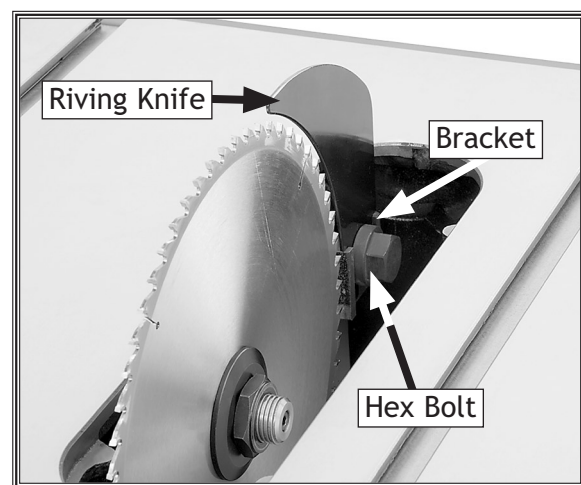

Figure 31. Riving knife installed.
2. Loosen the hex bolt (**Figure 31**), insert the riving knife into the bracket slot, and tighten the hex bolt to secure the riving knife.